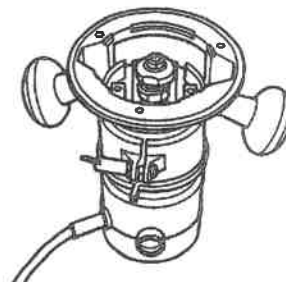

Fig. A-16
- a. Remove the composite (or plastic) base plate from your router, as in Fig. A-16.